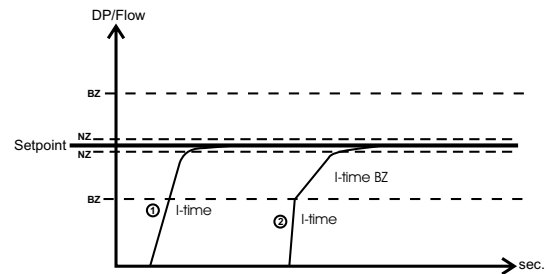

Fig 3
2. Shifting between two I-times. The reason for working with two I-times is often that outside a set pressure or flow limit you want to have a fast response and inside a slow response (see Fig 3). BZ: limit for switching I-time. BZ is in % of the scaled pressure or flow range. Half the Bz is on each side of the set point. If the control output is not entering a stable position, increase the I-time, you could also try to increase the neutral zone.